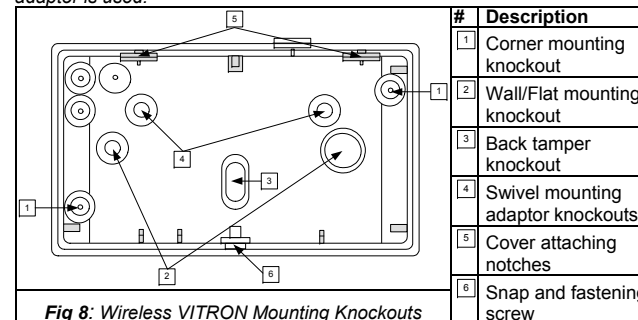

Fig 8: Wireless VITRON Mounting Knockouts
2. Open the required mounting knockouts, according to the type of installation (corner, flat or swivel mounting, see Fig. 8).
3. If a back tamper protection is required open the back tamper knockout (3, Fig.8).